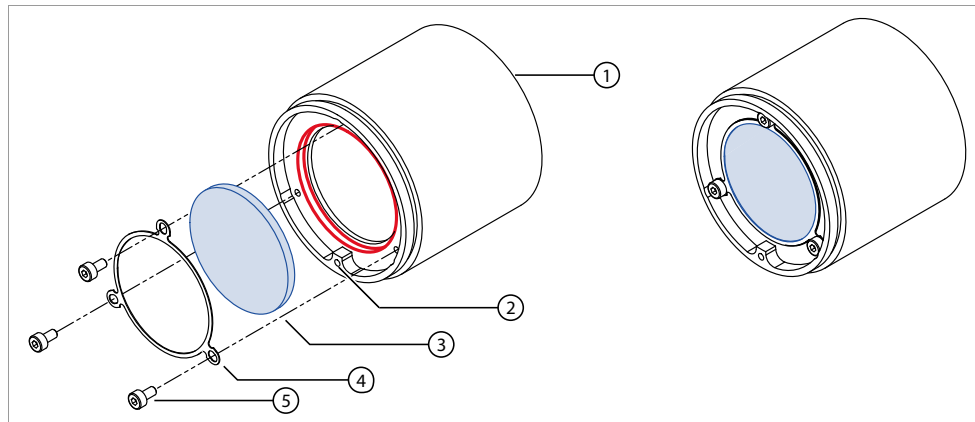

Figure 39: Changing the filter in the M42-Mount adapter
- See Figure 39 (blue = filter, red = filter recess).